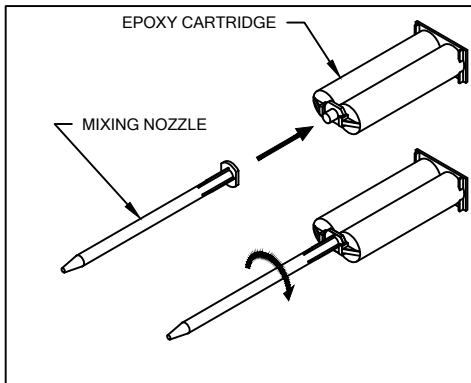

FIGURE 3.
- ONCE TESTED, REMOVE AND APPLY 1/8" BEAD OF ADHESIVE TO SANDED, INTERIOR SURFACE (REFERENCE CAULKING GUN CONVERSION KIT FIGURES 3 & 4) AND PERMANENTLY ATTACH ALUMINUM SPLINE.